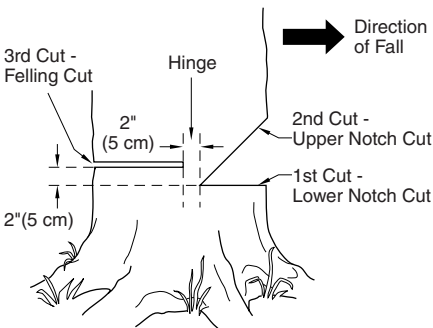

Figure 14 - Felling A Tree
A properly placed felling notch will determine direction tree will fall. Place felling notch on side of tree in direction you want tree to fall (see Figure 14). Follow directions below to create a felling notch.
1. Make lower notch cut as close to ground as possible. Hold saw so guide bar is horizontal. Cut $\frac{1}{3}$ the diameter of tree trunk (see Figure 14). **Note:** Always make this horizontal lower notch cut first. If you make this cut second, tree can pinch chain or guide bar.
2. Start upper notch cut the same distance above first cut as first cut is deep. **Example:** If lower notch cut is eight inches deep, start upper notch cut eight inches above it. Cut downward at 45° angle. The upper notch cut should meet end of lower notch cut (see Figure 14).
1. Make felling cut two inches higher than lower notch cut and on opposite side of tree (see Figure 14). Keep felling cut parallel to lower notch cut.
WARNING: Do not cut all the way through tree. Leave about two inches of tree diameter uncut directly behind felling notch (see Figure 14). This uncut portion acts as a hinge. The hinge helps keep tree from twisting and falling in wrong direction.